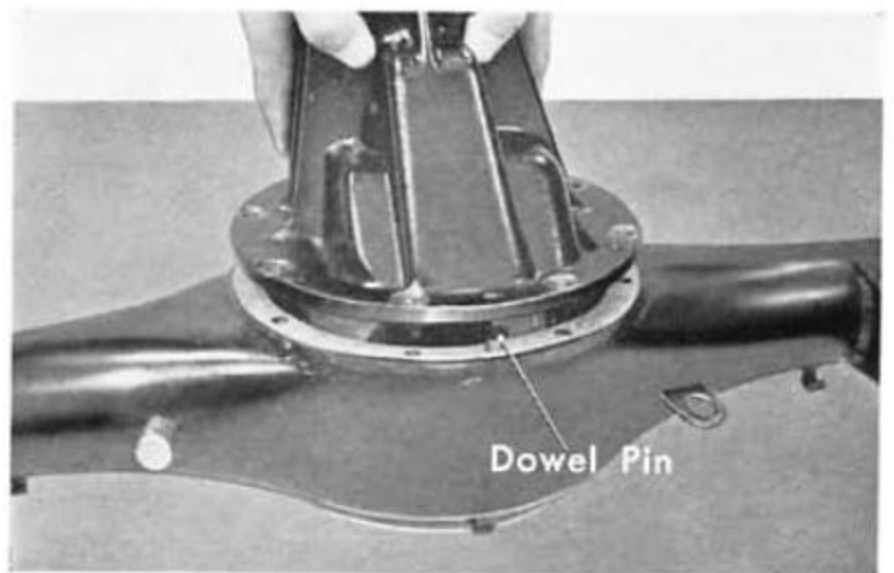

Fig. 8C-25
28. Assemble the gasket on the rear axle housing, align the drive gear carrier hole to the carrier pin and assemble. Install the washers, nuts, and torque the bolts in a diagonal pattern (Fig. 8C-25).